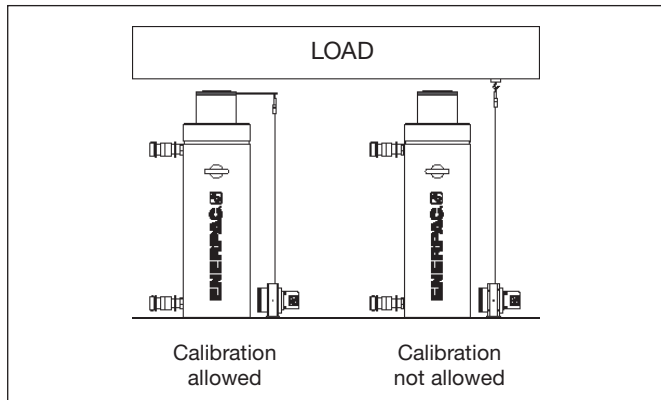

Figure 47: Calibration Conditions
2. Cylinder calibration selection: The user must set if the calibration is going to be carried out or not, depending on the type of cylinder used. Refer to Figure 47 for details.